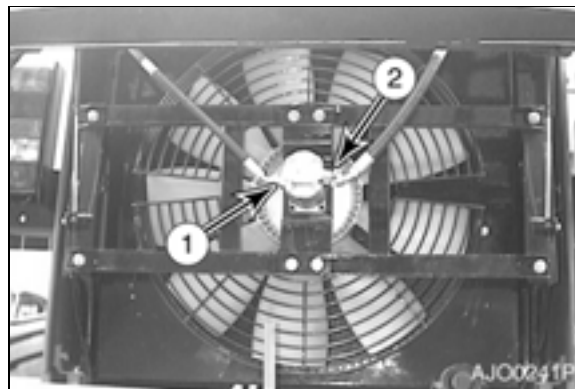

Figure 102
1. Attach gauge to inlet port of fan motor (1, Figure 102).
2. Adjust screw on relief valve cartridge (2, Figure 102).